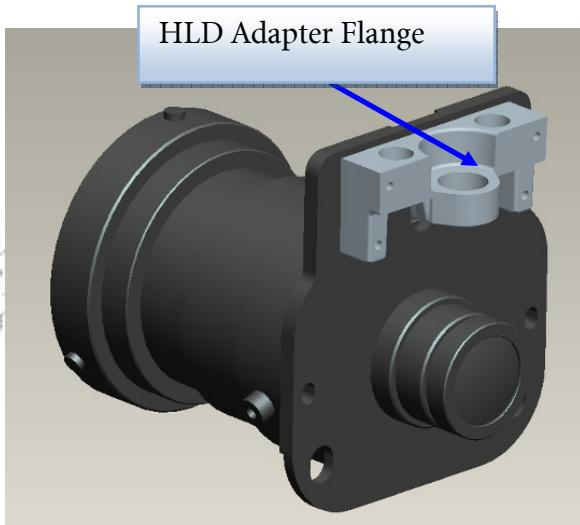

Fig.5-8-1
- i. Pre-Assemble “Lens” and “HLD Adapter Flange” screws well. (Fig. 5-8-1,5-8-2)